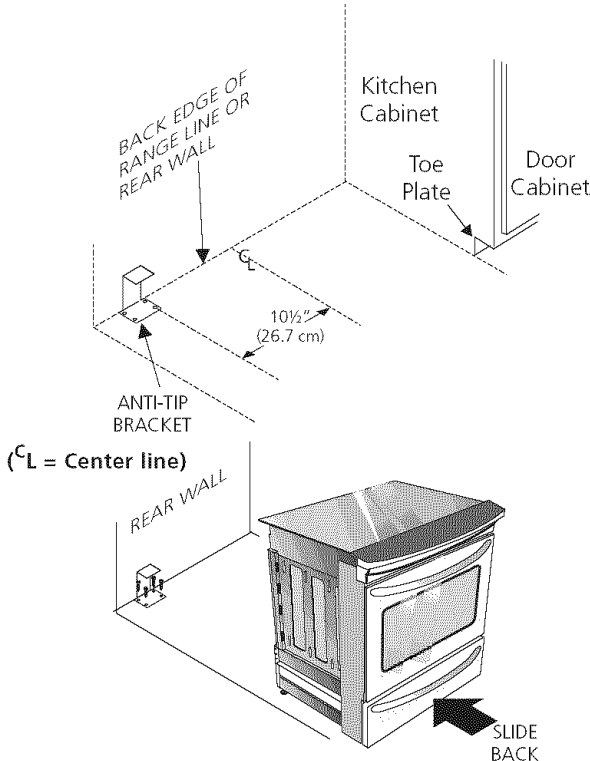

Figure 12
1. Draw a center line (CL) on the floor where the range should be installed. Also draw a line on the floor at the range back position if there is no wall.
2. Unfold paper template and place it flat on the floor with the right rear corner positioned exactly on the intersection of the center and back lines you just drew before. (Use the diagram below to locate brackets if template is not available. (Figure 12))
6. Slide range into place making sure structure of the range is trapped by the anti-tip bracket (Figure 12). Lower the range by adjusting the 4 levelling legs until the underside of the cooktop is sitting level on the countertop. Refer to "Levelling the Range" section.